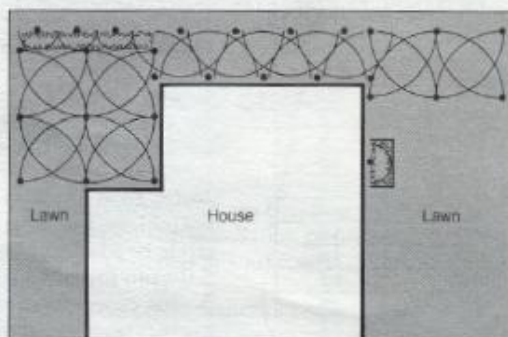

Figure 4: Proper sprinkler spacing.
5. Place half-circle heads on the borders; quarter-circle in the corners; and full-circle heads within the perimeter. Make sure the coverage of heads overlaps (Figure 4).